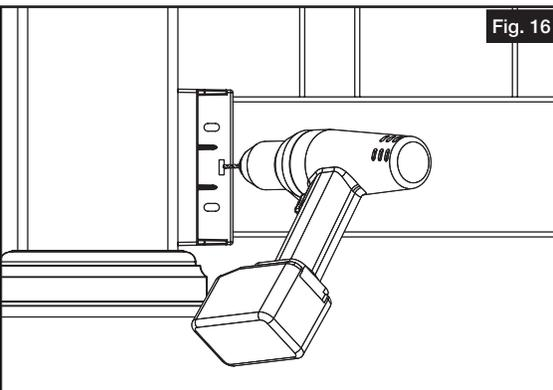

Fig. 16
- a. For each installed bracket, pre-drill in the center of each elongated hole with a  $\frac{1}{8}$ " drill bit (Fig. 16).